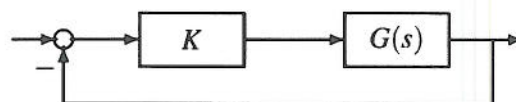

Figure 1.2
- (b) This is a Nyquist diagram/Routh-Hurwitz question and is mostly typical of study group questions. Figure 1.2 has come up in questions before.
- b) In Figure 1.2 below, $G(s) = 4/(s+1)^3$ and K is a gain.